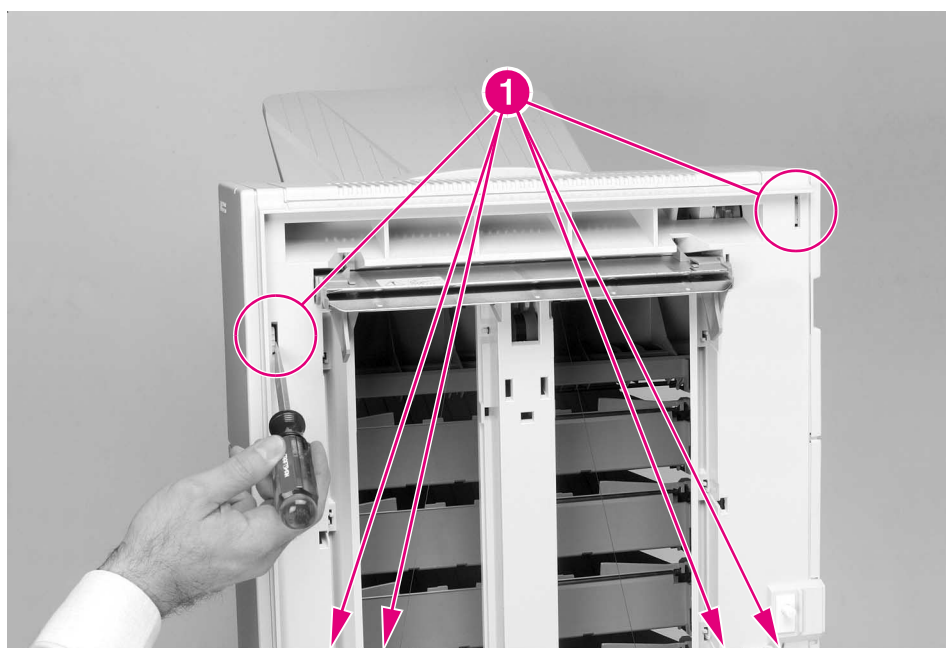

Figure 6-152 8-bin Mailbox Covers (Front and Back)
- 1 Remove the Front and Back Covers from the 8-bin Mailbox (see Figure 6-152).
- 1 Remove the Back Cover from the 8-bin Mailbox (see Figure 6-152).